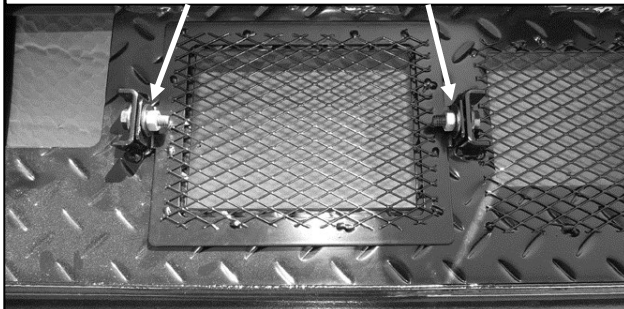

Fig 1
2. Remove the license plate and bracket. On models with factory fog lights, unplug both lights. Release the wiring harness from the clips attached to the back of the bumper, **(Figures 1 & 2)**. Move harness away from bumper.
a. Attach the ACC Removable Window to the back of the bumper using (2) M6 Hex Bolts (item 19), (4) M6 Flat Washers (item 21), (2) M6 Lock Washers (item 22) and (2) M6 Hex Nuts (item 23), (**Figure 1**).
- Use a flat blade screwdriver to carefully pop out the tabs on the side of the fog light bracket attaching the light to the bracket, **(Figure 1)**. Pop the light out of the plastic bracket housing.